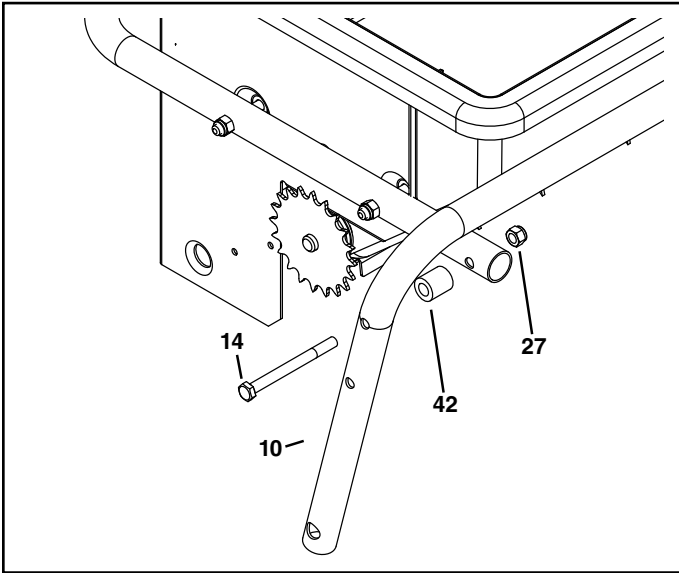

FIGURE 4
- On the left side, insert a 5/16" x 3-1/2" hex bolt (14) through the upper hole on the transport tube (10), a spacer (42), and the hitch tube. Secure with a 5/16 nylock nut (27). **Do not tighten yet.** See figure 4.